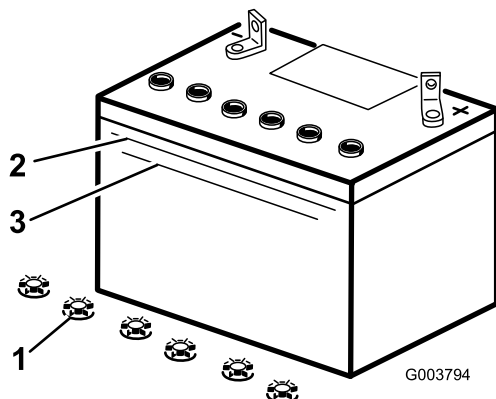

Figure 29
Note: The electrolyte must be up to the Upper line (Figure 29). Do not allow the electrolyte to fall below the Lower line (Figure 29).
- Remove the filler caps from the battery (Figure 29).
- Slowly pour distilled water into each battery cell until the electrolyte level is up to the Upper line (Figure 29) on the battery case.
Note: Add distilled water, if necessary, until the electrolyte level is up to the Upper line (Figure 29) on the battery case.